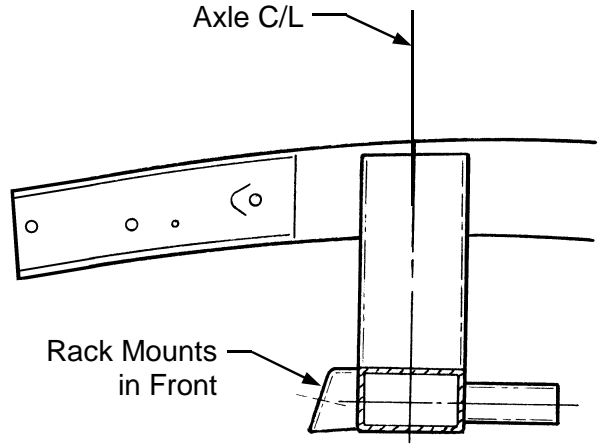

Figure 2
5. Trial fit the new crossmember onto the rails. It should be located with its centerline on the marked axle centerline. See Figure 2. The frame is approximately 30-5/16" wide at the axle centerline. During boxing, the rails may have a tendency to bow outward slightly, if they were clamped ahead of the axle centerline. Pull the rails in to fit the crossmember. There may be a gap between the crossmember uprights and the frame rails at the 30-5/16" dimension. They may be undersize from boxing, or reproduction frame rails are sometimes thinner than stock. If this is the case, a spacer or filler may be required. If the crossmember is too wide, grind it to fit snug. It should be seated flat against the bottom of the frame rails. Clamp in place, double check your measurements, making sure crossmember is squared on the frame, then weld in place. Weld all around, top, sides and bottom. This crossmember keeps the front frame rails from twisting and flexing, so good strong welds are required.